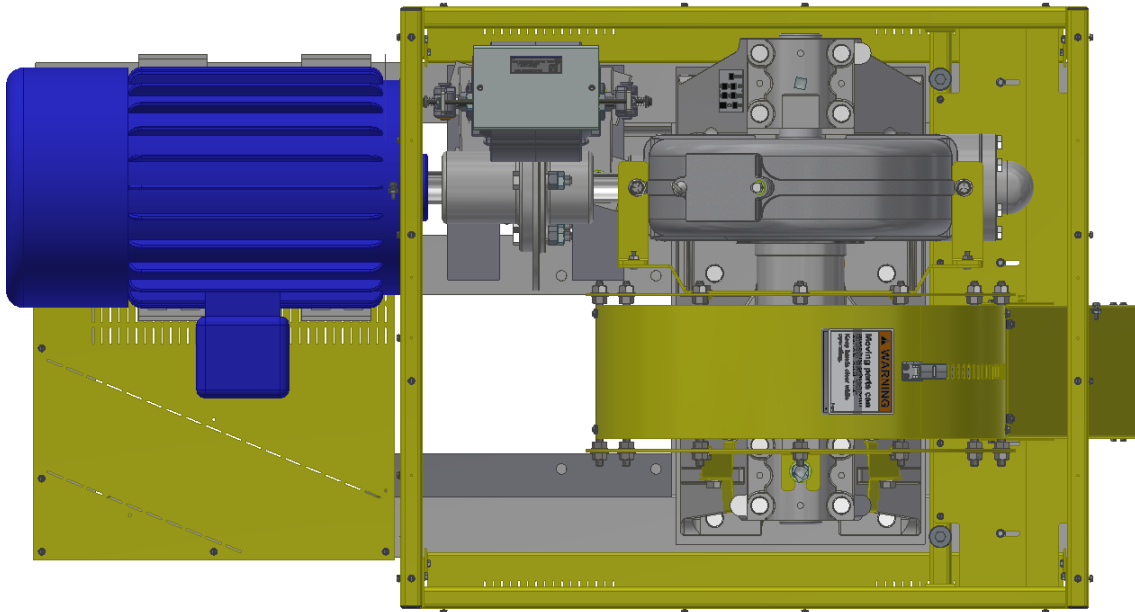
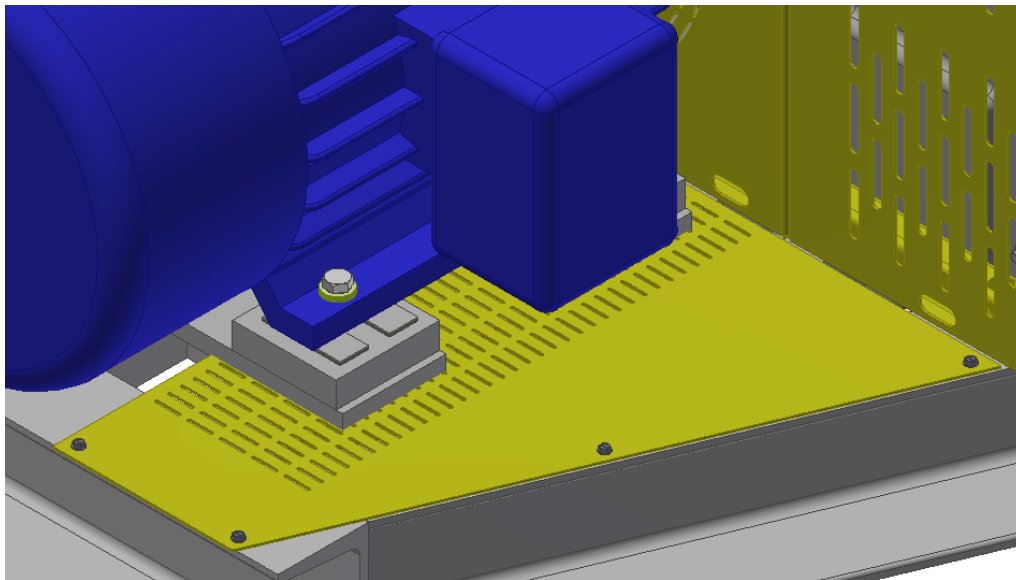

Figure 20: Machine Guard Motor Filler Panel Square Base Configuration
Figure 21: Machine Guard Motor Filler Panel Angled Base Configuration
- Place the Machine Guard Motor Filler Panel (p/n \_ -242) in the location to be installed and drill through the Overhead Traction Machine base with a 0.154 inch diameter drill where holes are present in the panel that are above the Overhead Traction Machine base members and secure with provided #10-24 screws. An assembled view of a square base configuration is shown below (Figure 20) and an assembled view of an angled base configuration is shown below (Figure 21).